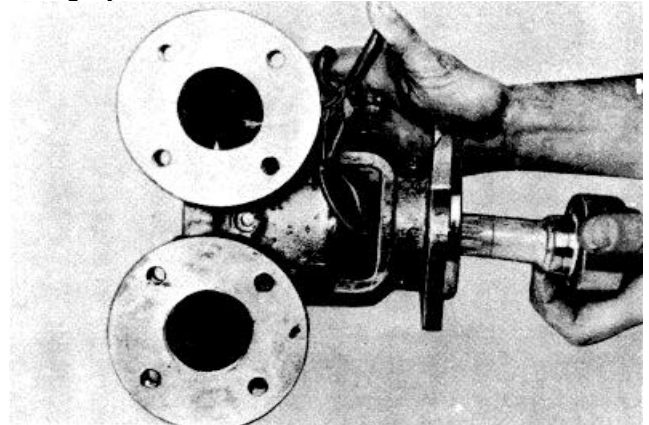

Fig. 8-58 (N20806). Install The Shaft Into The Housing.
- 4. Hold the rubber slinger (8) in the correct position in the housing. Install the shaft into the housing and through the slinger as shown in Fig. 8-58.